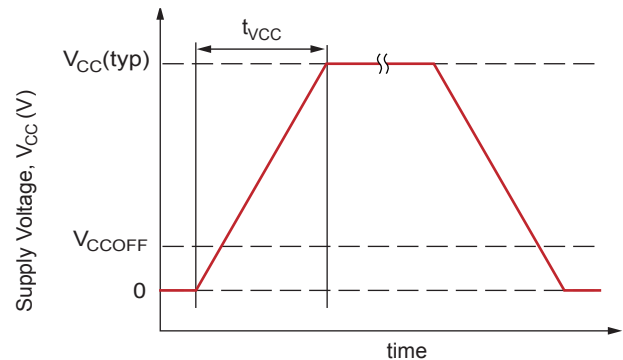

Figure 4. Definition of  $V_{CC}$  Ramp Time,  $t_{VCC}$
**$V_{CC}$  Ramp Time.** The time taken for  $V_{CC}$  to ramp from 0 V to  $V_{CC}(typ)$ , 5.0 V (see figure 4).
**$V_{CC}$  Off Level.** For applications in which the  $V_{CC}$  pin of the A1388 or A1389 is being power-cycled (for example using a multiplexer to toggle the part on and off), the specification of  $V_{CC}$  Off Level,  $V_{CCOFF}$ , determines how high a  $V_{CC}$  off voltage can be tolerated while still ensuring proper operation and startup of the device (see figure 4).